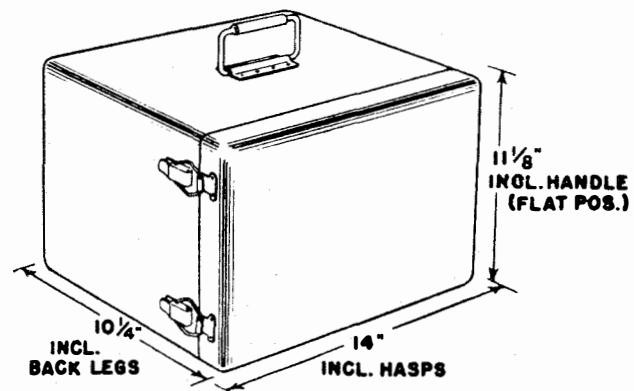

Figure 3-2. RF Signal Generator Set AN/URM-25, Outline Dimensional Drawing
(1) Antenna Simulator SM-35/URM-25, (5:1) Fixed Attenuator CN-132/URM-25, (10:1) Fixed Attenuator CN-136/URM-25, Impedance Adapter MX-1074/URM-25, Test Lead CX-1363/U, Coaxial Adapter UG-201/U, and Instruction Book will be found on the inside of the panel cover of the generator. Ferrule clips are provided for mounting these units to the panel.
(2) The power cable (W-101) and output cables (W-104, W-105, W-106), are packed on an aluminum plate in the cabinet cover.
c. Dimensions of the signal generator are shown in Figure 3-2.